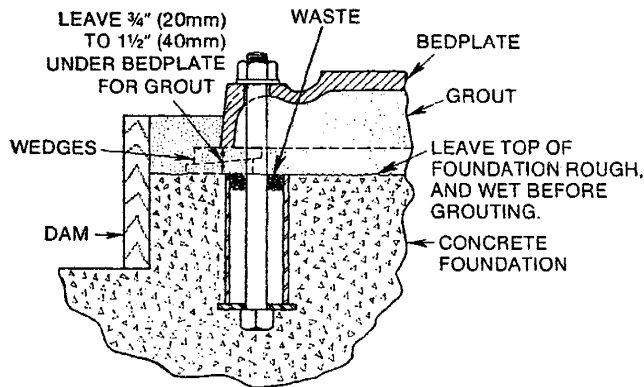

Figure 1
The I.D. of the sleeve should be $2\frac{1}{2}$ -3 times the bolt diameter. Place a washer between the bolt head and sleeve to hold bolts. (See Fig. 1).
7. Build wood dam around foundation as shown in Fig. 1, and thoroughly wet top surface of foundation. Pour grout in hole provided in top of bedplate. Use of non-shrink grout is recommended. Grout should be thin enough to flow out under the bedplate, but not so wet that sand and cement will separate. Grout should be puddled continuously as it is poured to expel the air and completely fill the space under the bedplate to the level of the grout hole. Strike along top of dam with trowel to give a neat finished appearance. Remove wedges when grout has hardened enough to support the unit. Allow grout to harden at least 48 hours.